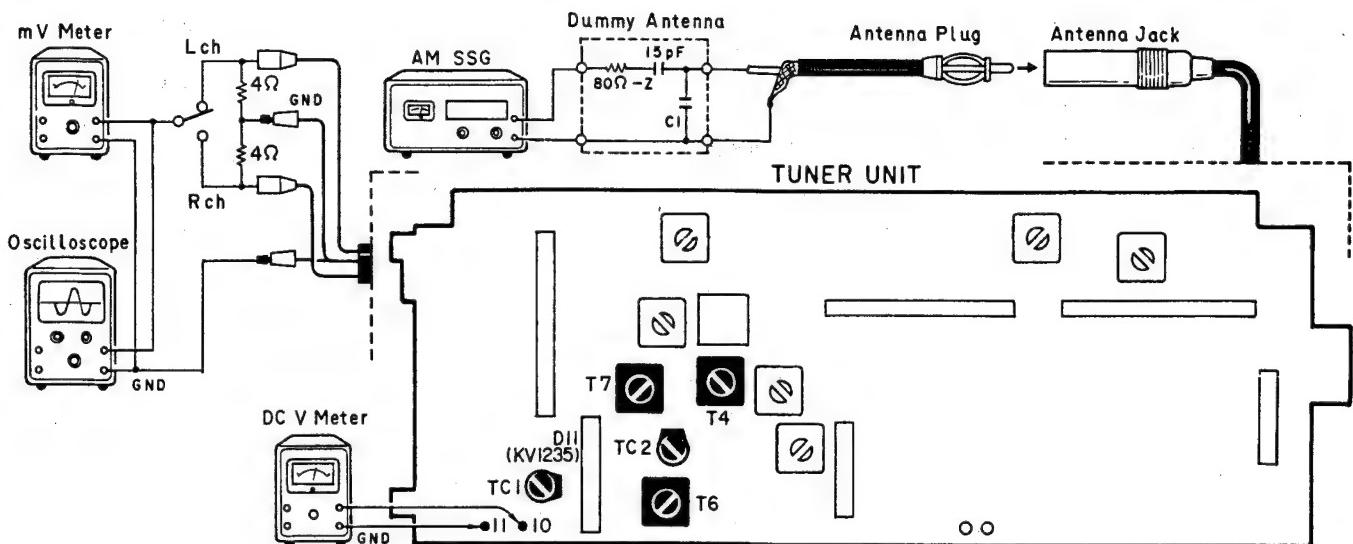

Fig. 25
- Connection Diagram (Shown in Fig. 25)